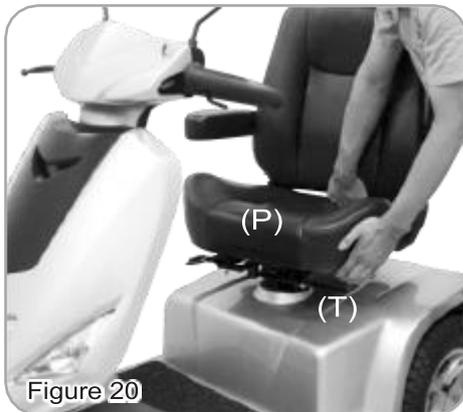

Figure 20
1. Refer to page 14 for disassembly, then remove seat (P) and rear shroud (Z). (Figures 20 and 21)
4. Then assemble the rear shroud (Z) and seat (P) back to its original position. (Figures 20 and 21)
1. Remove rear shroud (Z) upwards (Figure 20).